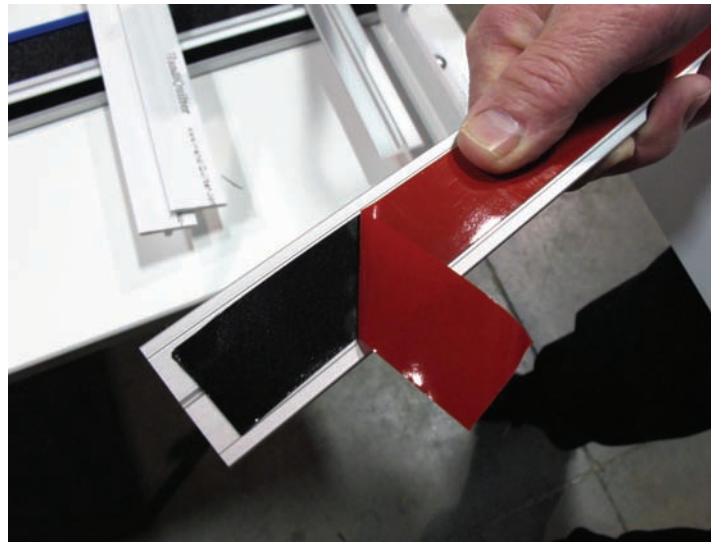

Figure 7
Step 6: The back of the aluminum track has black tape with a red release film protecting it. Peel back the release film about **1-1/2"** from **both ends** and fold it over at a 45 degree angle so it sticks out to the side of the track (**Figure 7**).